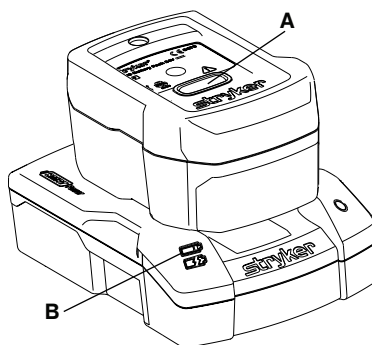

Figure 42 – Charging the SMRT Pak
To charge the **SMRT Pak** (Figure 42):
- The **SMRT** charger LED indicator (B) will flash green while charging (Figure 42). The optimum charge time is two hours.
- When the **SMRT Pak** is charged and ready for use, the **SMRT** charger LED indicator (B) will turn to solid green.
2. Press the red release button (A) (Figure 42) and slide the **SMRT Pak** to release the charged and ready **SMRT Pak** from the **SMRT** charger.